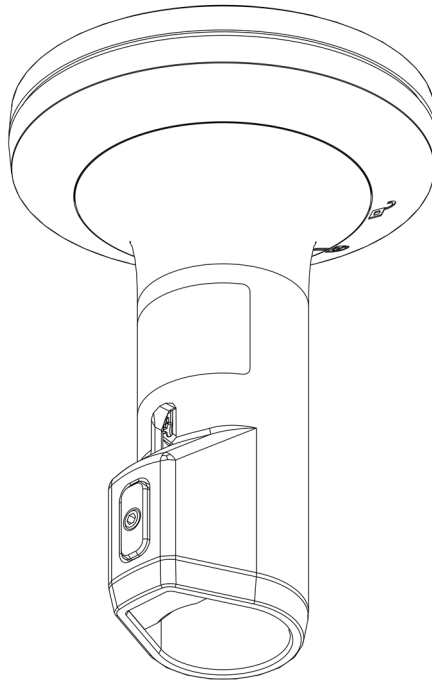

FIGURE 8: POLE MOUNT INSTALLATION STEP 1 (MAKE A RECORD OF THE UNIT SERIAL NUMBER)
Step 1: Unpack the LT-300 GNSS Receiver and make a record of the unit serial number for support or warranty issues that could occur in the future. The unit serial number label is fixed on the pole mount as illustrated on Figure 8.